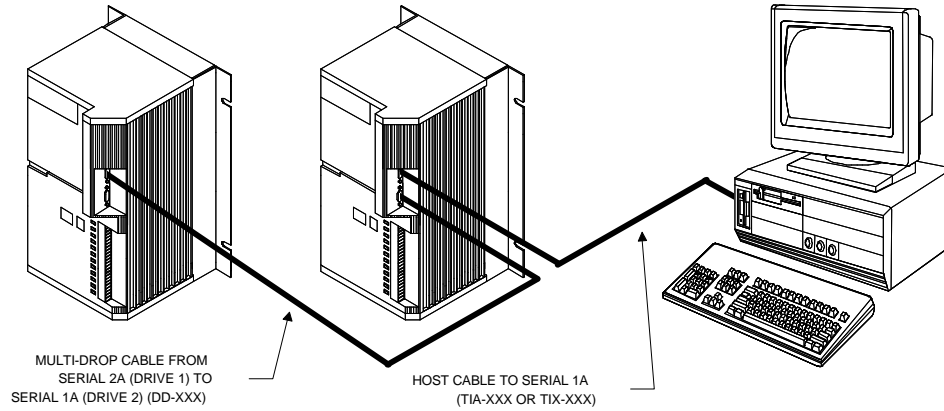

Figure 5 Serial Communication Multi-Drop Setup
Multi-drop serial cables can be used to connect up to thirty-one (31) drives to a single COM port. In a multi-drop setup, each drive must have a unique axis identifier code. The identifier codes are set using DIP switches on the front panel. An example of a multi-axis connection is shown in Figure 5, “Serial Communication Multi-Drop Setup,” on page 4.